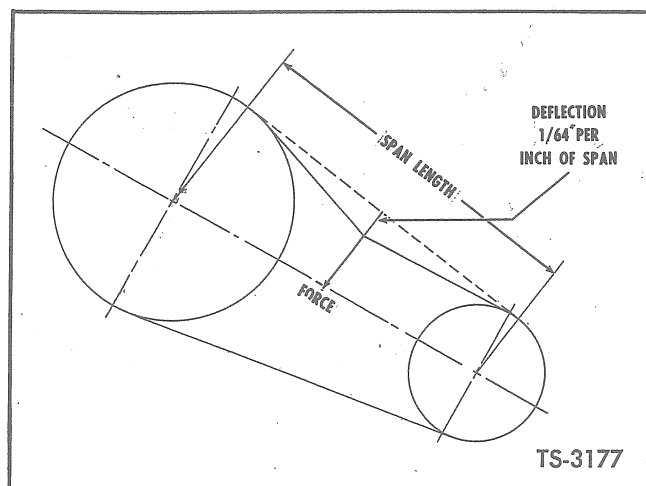

Fig. 8. Check Belt Tension
2. At the center of the span, apply force with a spring scale (at right angles to the span) large enough to deflect the belt $\frac{1}{64}$ inch per inch of span. Refer to Figure 8.